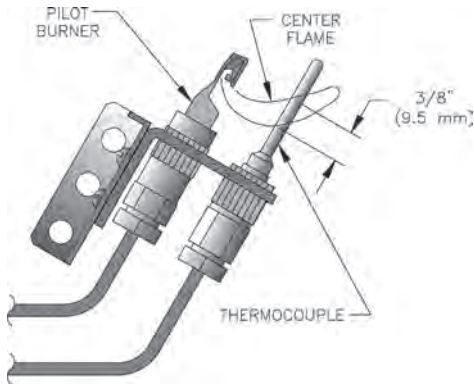

Figure 10: Pilot Burner Flame, Continuous Ignition System, Honeywell Q327 Pilot
- b. Continuous Ignition (Standing Pilot), Models IN8_C through IN12_C. See Figure 10. Pilot burner produces three (3) flames. The center flame should be steady, medium hard blue enveloping 3/8 to 1/2 inch of thermocouple. If flames are yellow and lazy, follow instructions TO TURN OFF GAS TO APPLIANCE (see Figure 4 for Models IN8_C and IN9_C or